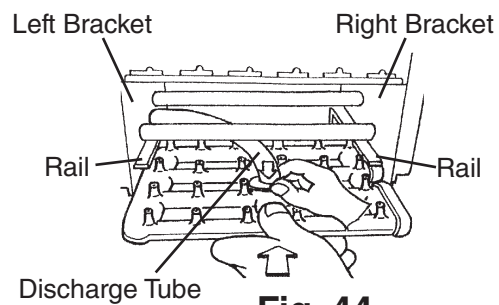

**Fig. 42**
- 8) Remove the two caps. See Fig. 42.